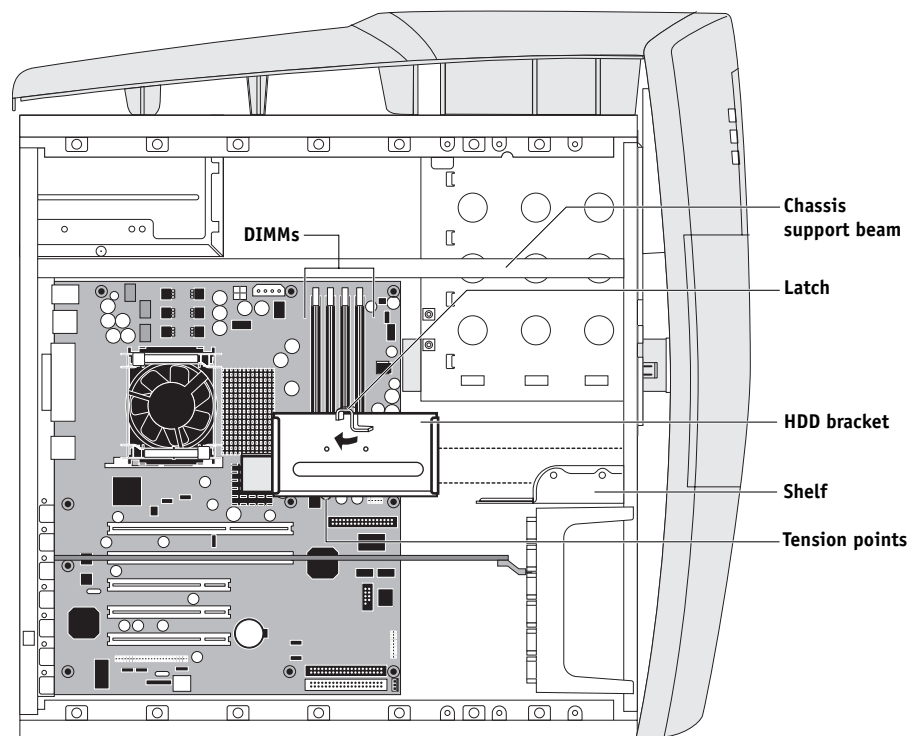

FIGURE 4-26 Removing/replacing the HDD bracket
5. Slide the HDD bracket off the shelf and lift it out of the chassis. (See Figure 4-26.)
**2. Position the HDD inside the HDD bracket and align the front-most mounting holes on the HDD with the four holes in the bracket (see Figure 4-26 on page 4-48).**